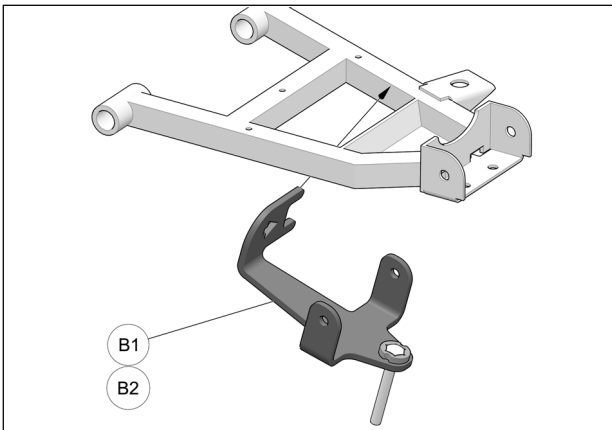

Fig. 6
- Lift anchor bracket (B1-B2) up to lower suspension arm and hook the C-shaped rear part of anchor bracket on suspension arm as shown on Fig. 6